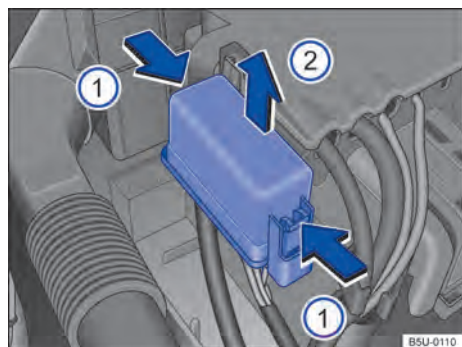

Fig. 179 On the engine compartment: fuse box cover.
- Press the retainers in the direction of the arrow → Fig. 179 ① to release the fuse box cover.
- Lift off the cover in the direction of the arrow ②.
- To fit, place the cover over the fuse box. Press the cover down, in the opposite direction to the arrow ②, until it clicks into place.
① NOTICE